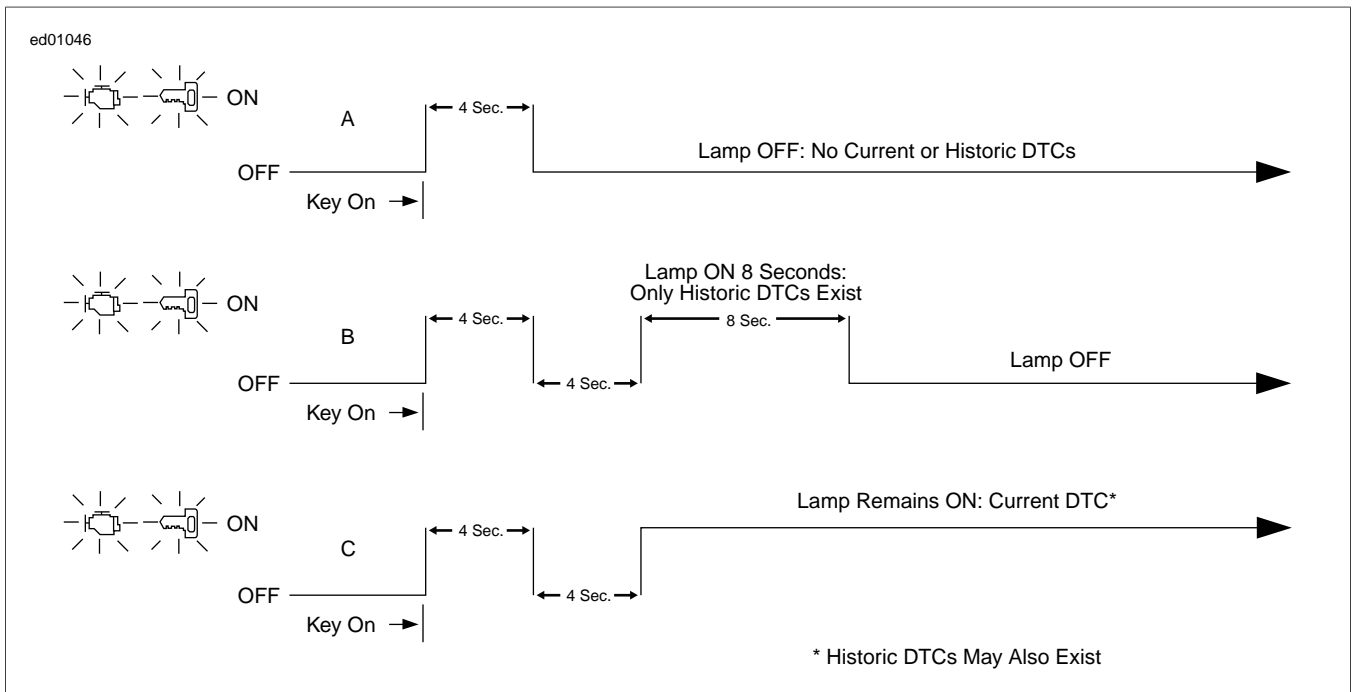

Figure E-9. Security Lamp Operation
1. See Figure E-9. After the lamp turns off after being illuminated for the first four-second period, one of three events may occur: